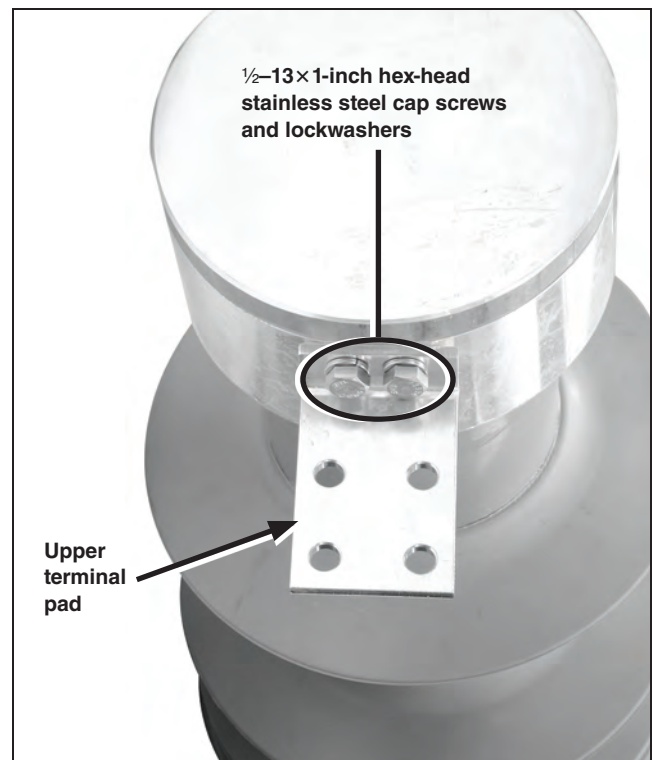

Figure 70. Bolt the upper terminal pad to the interrupter.
- Attach the terminal pad to the appropriate set of tapped holes on the interrupter. Tighten the screws to a torque of 40 to 50 ft.-lbs. See Figure 70.